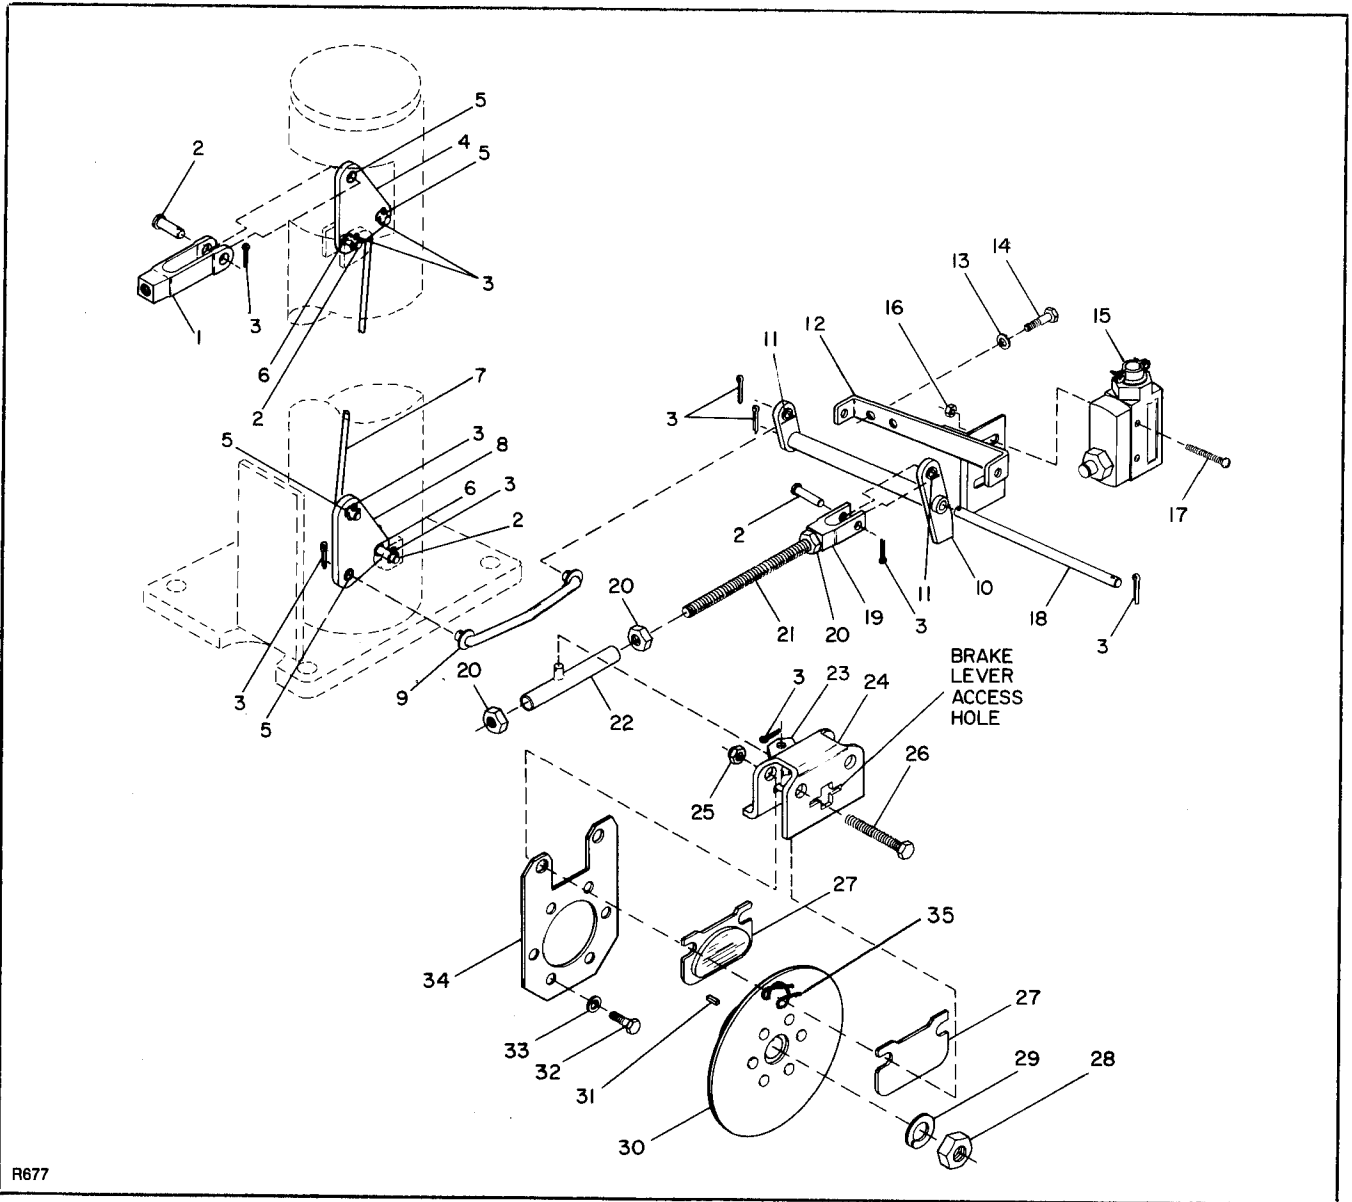

Figure 3-9. Disc Brake and Linkage (Serial Number 70596 and Higher)
4. Loosen and remove locknut (39) and lock washer (38).
5. Pull the brake drum (37) from the drive motor shaft, being careful to retain key (36).
6. Remove brake shoe return spring (32) and both brake shoe hold-down springs (29).
7. Remove both brake shoes (33).
d. Replacement of Disc Brake Parts. (Figure 3-9)
4. Remove two bolts (26) and nuts (25) to release brake pads (27).
5. If brake pads don't fall free, slide brake pads out from end of clamp (24).
6. Insert replacement brake pads in clamp assembly, one pad on each side of disc (30) with linings toward the disc, and secure pads and clamp with two bolts (26) and nuts (25).
e. Brake Lever Replacement. (Figure 3-9)
2. Remove brake unit. For trucks with drum brake, remove shoes (paragraph 3-13c). Then remove cotter pin (19, figure 3-8) and clevis pin (18), separating the rod clevis from the lower liner assembly. For trucks with disc brake, remove pads (paragraph 3-13d). Then remove lock nut (28, figure 3-9) and lock washer (29). Pull disc (30) from drive motor shaft being careful to retain key (31).